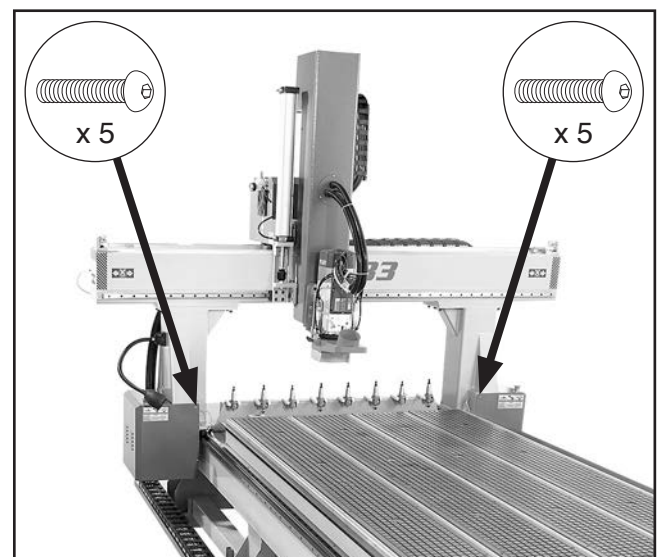

Figure 44. Gantry column covers installed on gantry columns.
16. Install gantry column covers on gantry columns using (4) M6-1 x 8 button head cap screws pre-installed on each gantry column (see **Figure 44**).